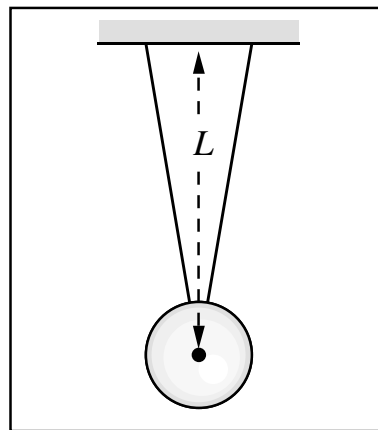

Fig. 1: Side view of pendulum ball and bifilar support.
5. Measure the diameter of the ball, to aid the measurement of  $L$ , which is specified in Fig. 1 (later, it will turn out to be easier to measure the distance from the top of the ball to the support than from the center of the ball to the support).